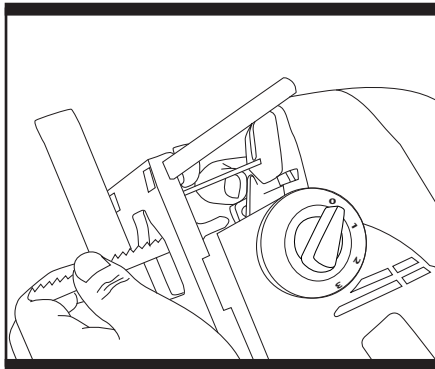

Fig. 1
1. Fitting the Saw Blade (Fig. 1)